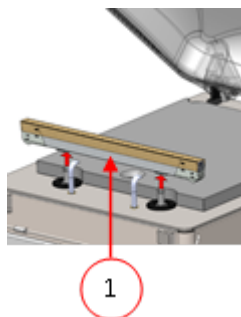

Figure 19: Removing the Sealing Bar
1. Remove the sealing bar by lifting it from the cylinders. See *Figure 19: Removing the Sealing Bar* on page 52.